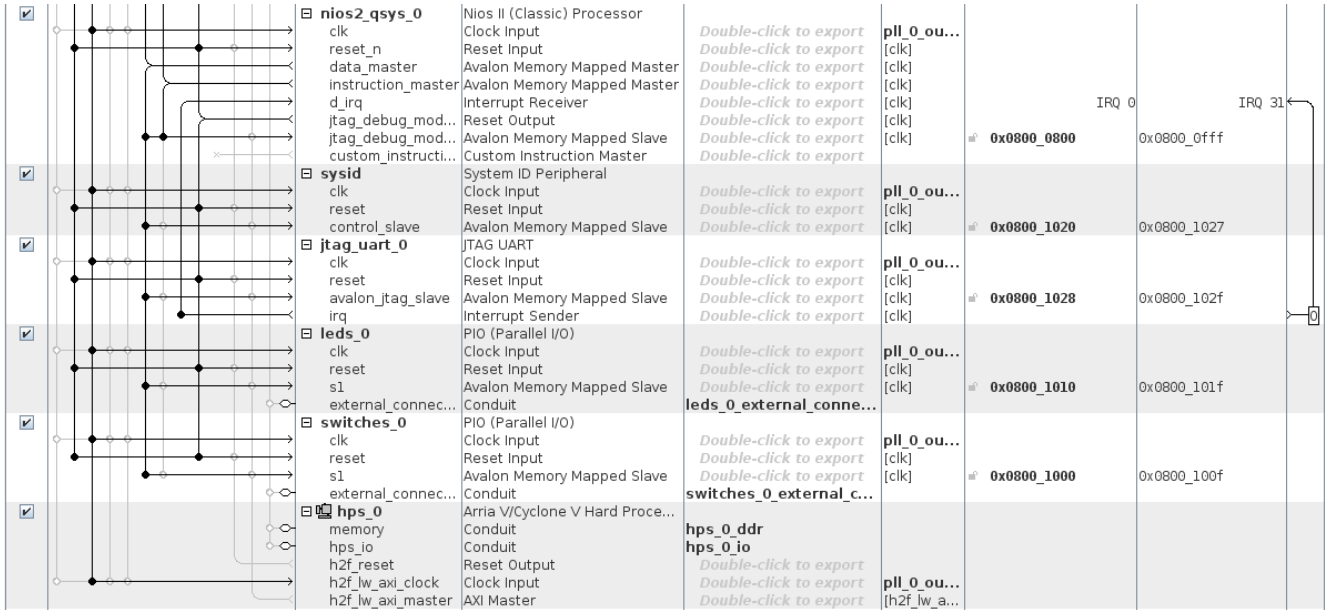

Figure 9-13. Adding the "Standalone" HPS to the System
26. Connect the system as shown in Figure 9-13 below: